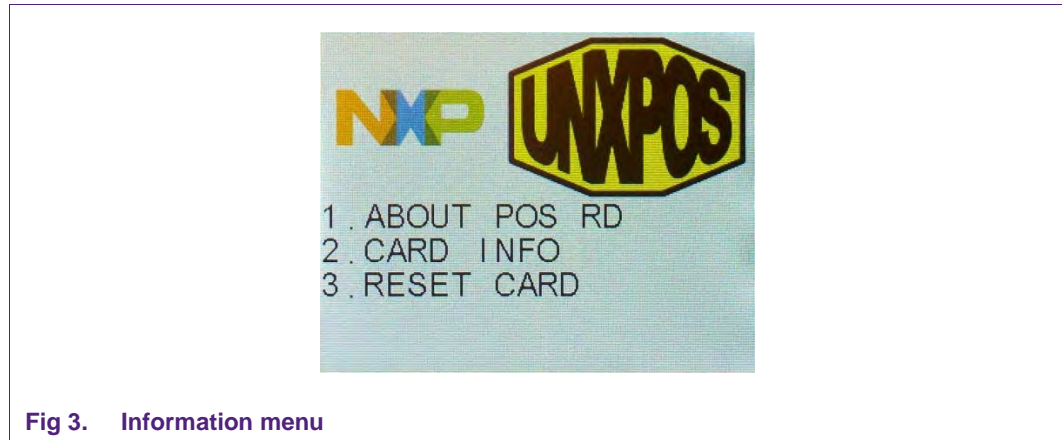

Fig 3. Information menu
3. Press key '2' to select the INFORMATION sub-menu as seen in Fig 3.